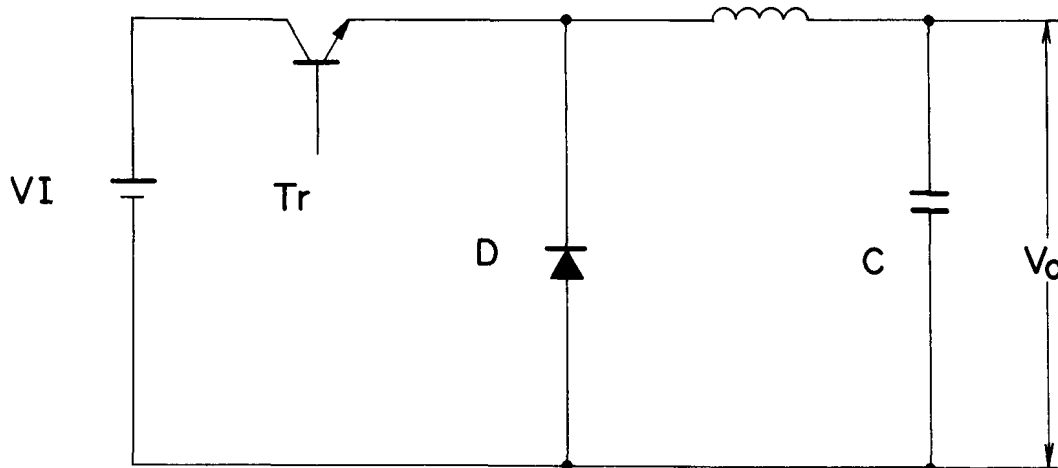

Figure 4-46. 5V equivalent circuit
The Power Supply circuit of 5V output consists of a step-down switching regulator. As shown in Figure 4-46, the circuit has no transformer; the input and output terminals are direct currentwise common. Therefore it is free from the trouble caused by a linkage-inductance and provides a miniaturized and effective Power Supply.
Block ②  $TR511$  is the switching transistor shown as  $Tr$  in Figure 4-46.
Block ④ In case  $TR511$  is locked ON for some reason,  $SCR500$  turns on and prevents the input voltage  $V_I$  (Figure 4-46) from directly appearing at the output guiding it to the ground. Thus it protects the connected systems from failure.